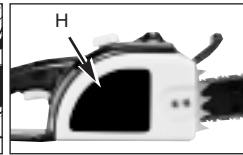

Fig. 3E
- Install the sprocket cover (H). Place the cover over the 2 bar bolts. Thread the retaining nuts (J) FINGER TIGHT ONLY. (See Fig. 3E)